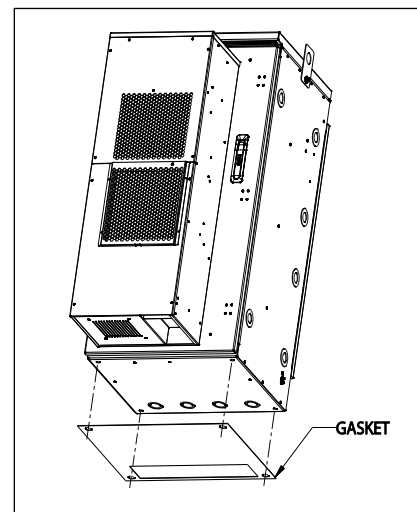

Figure 6 Gasket Installation
For pad-mounting on a new or existing precast concrete pad, remove or flip up the bottom lifting bracket before mounting. A loose gasket is provided inside the equipment compartment for placing the CUBE on the pad. Should the gasket become damaged during installation, a replacement can be ordered under part number 39-000469-0. Refer to Figure 6 for a view of installing the gasket.
3. Install the gasket and place into position on the mounting surface so that the gasket will be underneath the bottom of the CUBE when it is placed. Line up the gasket so that the cutouts are in position around the conduit opening and over the anchor bolts shown in Figure 6.